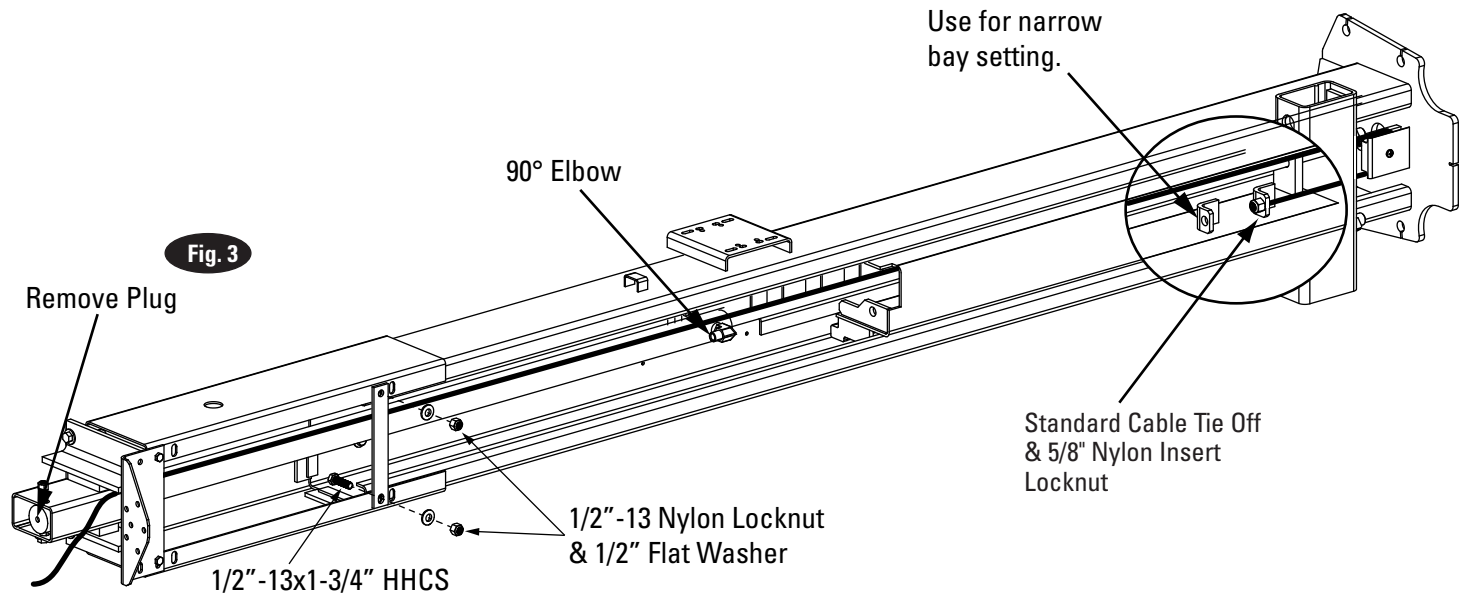
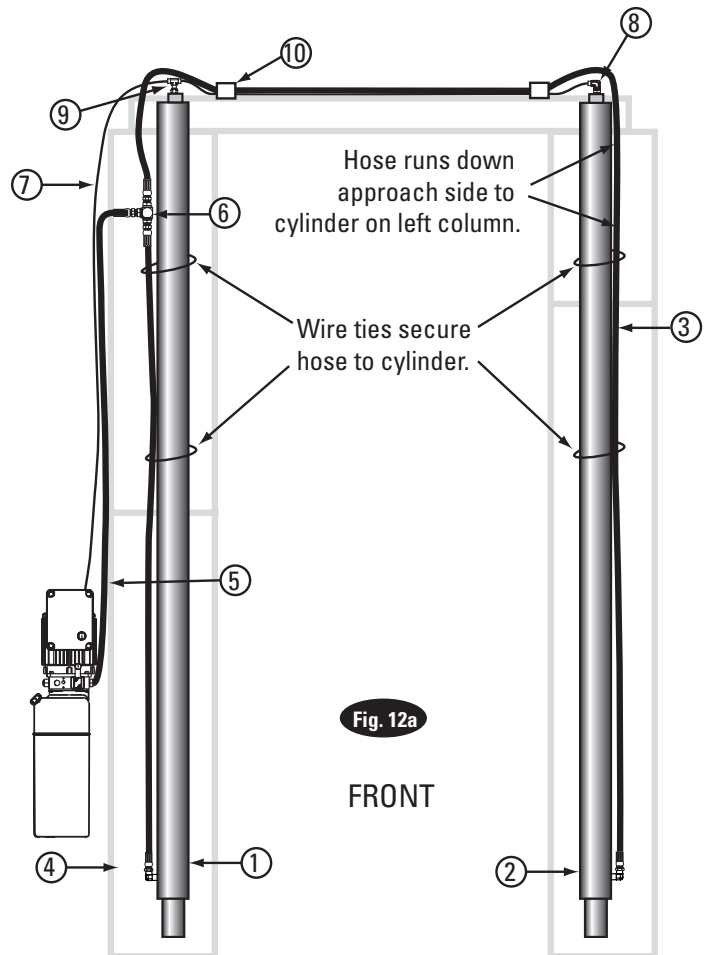

Fig. 3
Fig. 12a
3. Cylinder Fitting: Prior to standing up lift columns, install the 90° elbow fitting to the cylinder and equalizer cable to the bottom of the carriage Fig 3. Remove plug from the top of the cylinders and install the appropriate fittings per Fig. 12a.
- D.) Pull the cable back down, Fig. 3.
5. Tie Bar: Attach tie bar to column with (2) 1/2" - 13x1-3/4" HHCS, (2) 1/2" Flat Washer, and (2) 1/2" - 13 Nylon Locknut, Fig. 3.
6. Run return line from elbow Pc. (8) to tee Pc. (9). The return line then runs outside of column down and connects to the power unit, Fig. 12a.
NOTE: Overhead hose goes over top end of overhead assembly, Fig. 12a, 12c, Fig. 17a, & Fig. 17b.